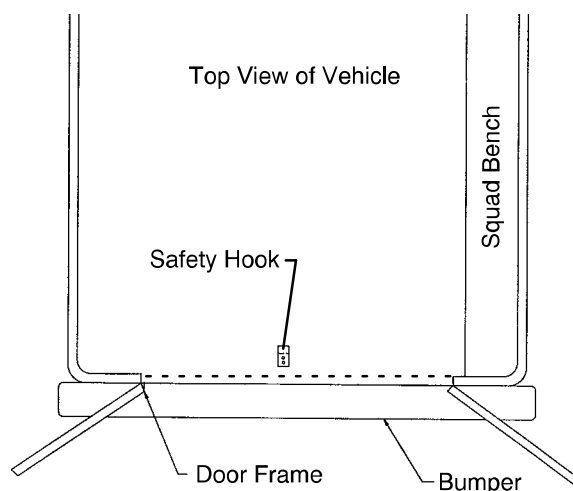

Figure 4 – Safety Hook Placement
3. Center the safety hook (Figure 4) on the cot safety bar. Be sure the hook is facing the front of the vehicle.